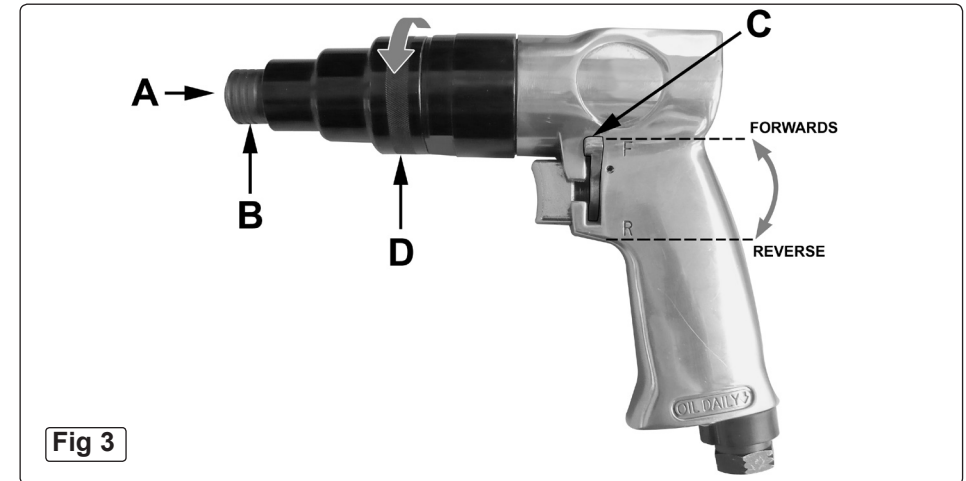

Fig 3
- 4.1. Push driver bit into self locking chuck (fig.3.A.) and ensure it is secure. To release bit, push chuck collar (fig.3.B.) forward and pull bit out.
- 4.3. Check that the screwdriver is set to operate in the required direction. The screwdriver direction is changed by switching the reverse lever (fig.3.C.) behind the trigger.
- 5.3. At regular intervals, remove the clutch housing (fig. 3.D.) by unscrewing in the direction shown, and apply a small quantity of suitable grease to the dog clutch.